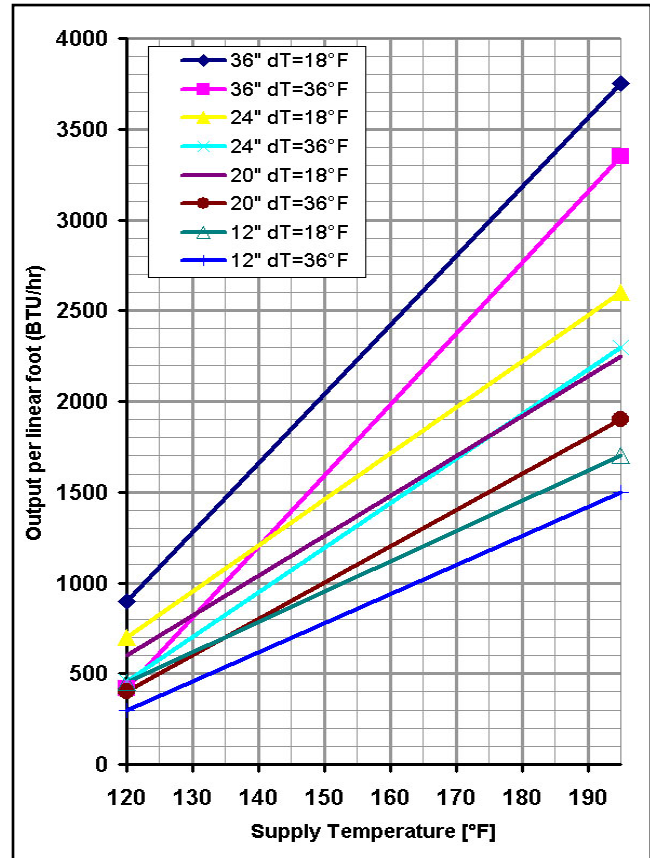

Fig. 10 Performance Curves Model 22 Radiators
Four examples are presented below to illustrate a range of options. If none of them applies, use Figure 10 and Table 9 to determine output based on individual requirements.
**Supply water temperature effect:** The effect of different supply temperatures on the output of panel radiators is computed using the conversion factors of Table 9 or read directly from the Performance Curves in Figure 10.
Comment: The effect of the ambient room temperature is already accounted for in the conversion factors listed in Table 9. Figure 10 contains the performance curves for Model 22 radiators showing the output per linear foot of radiation for the different heights as a function of supply temperature.
**Solution:** Required heat output per foot =  $12,000/6 = 2,000$  Btu/hr per linear foot. Check Figure 10 at 170°F (77°C) supply temperature and 2,000 Btu/hr Output:
With the supply temperature computed in Step 8 and the linear heat load in Step 4, refer to Figure 10 to find the required radiator size, or tables 9 and 10 for the total individual radiator output if the any of the four examples applies. Use the same  $\Delta T$  value in reading from the curves in Figure 10 as the selected value in Step 5. In case more than one radiator is to be installed in a room, size all radiators based on the above procedure.